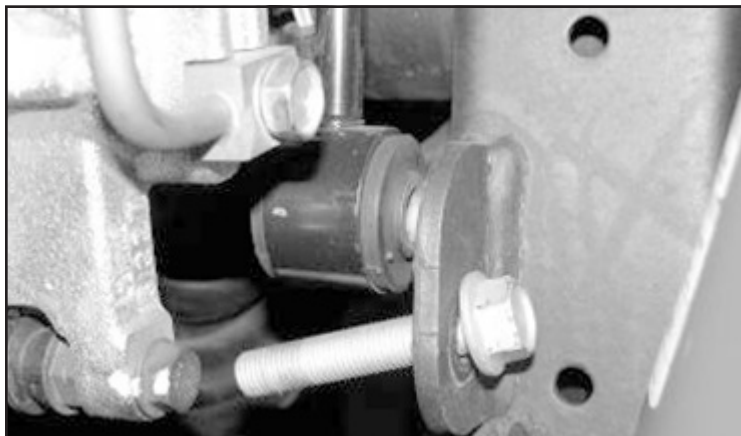

FIGURE 32 - STEP 22
22. Remove the factory shocks and discard, save upper mount hardware. Disconnect the rear sway bar end links at the lower mount on the axle, save hardware. **SEE FIGURE 32**